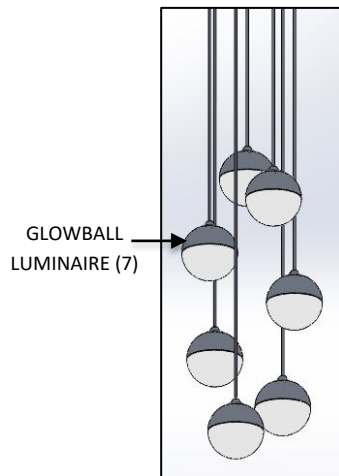

FIG. 2 GLOWBALL LUMINAIRE
1. GLOWBALL LUMINAIRE (7) with CORD attached. (Pre-assembled as shown in FIG. 2)